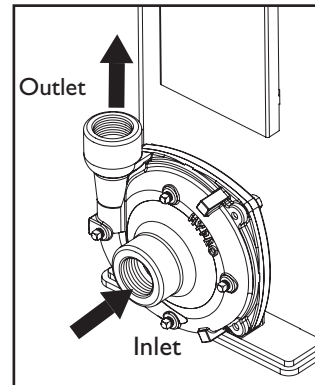

Figure 3: Pump plumbing
3. Connect the inlet and outlet plumbing as shown (Figure 3).